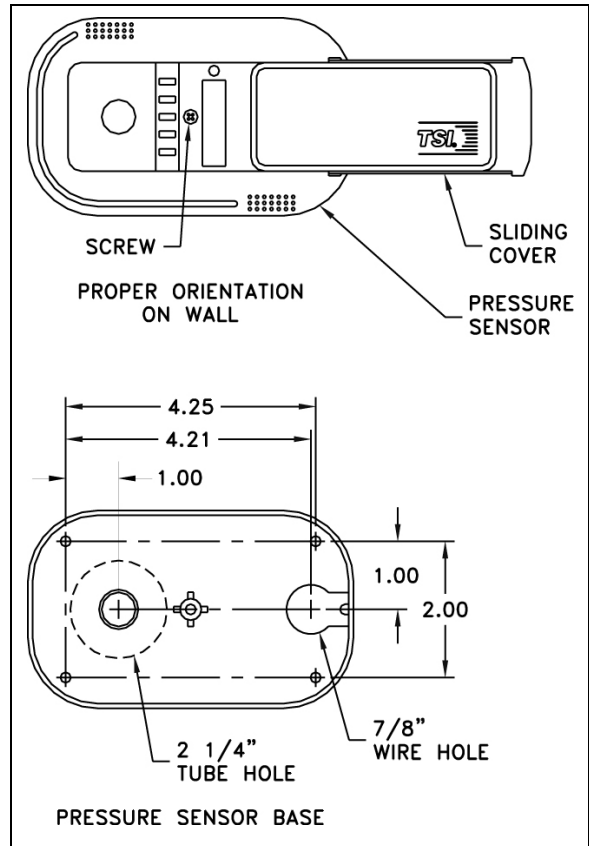

Figure 7: Pressure Sensor Orientation and Mounting Template
2. The pressure sensor must be orientated on the wall as shown in Figure 7. Looking at the mounted sensor, sensor hole is on the left (2¼") and wire hole is on the right.
4. Drill a 7/8 inch hole on the side of the wall that the pressure sensor will be mounted. This hole is for the six-conductor sensor cable. Refer to Figure 7 for a hole mounting pattern.
5. Slide sensor cover to right and remove screw that holds the sensor base to the pressure sensor (Figure 7). Remove pressure sensor and store in a safe place.